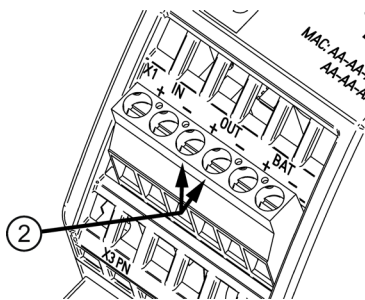

Figure 6-3 Output-side connection
The output voltage is connected at the "OUT+" and "OUT-" ② terminals (see Figure 6-3 Output-side connection (Page 108)). Ensure that the output cables are dimensioned correctly for the maximum output current rms value and fused accordingly.